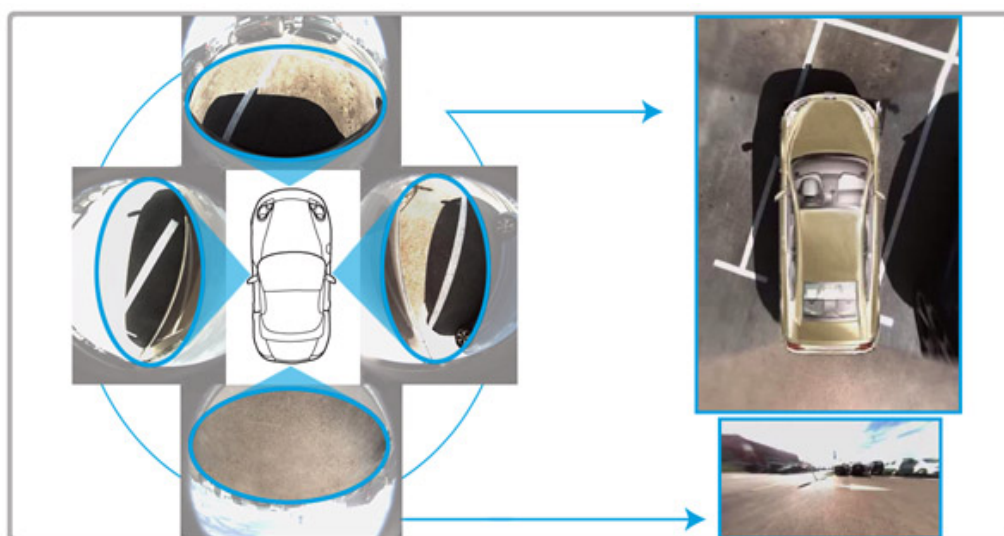

Figure 4: logiVIEW Application Example – Xylon's Four-Camera Surround View DA Demo System
The logiVIEW can be used in automotive Driver Assistance (DA) applications, such as the Four-Camera System for Surround View DA (Figure 4), Heads-Up Displays (HUD) or rear-view camera (backup aid) systems. Due to its high versatility and configurability, it can be used in other single or multi-camera applications, such as a medical endoscopy, surveillance systems, defense equipment, etc.
The Figure 4 provides an illustrative example of the logiVIEW capabilities. Snapshot comes from Xylon's Four-Camera Surround View DA Demo System, which is mounted on the test vehicle. The Surround View DA provides an unmatched awareness of the situation by enabling the driver to see 360-degrees around the vehicle on the LCD instrument cluster or the Central information Display (CID). The surroundings can be seen top-down from a bird's eye view perspective, which eliminates all blind spots during critical and precise maneuvers in crowded spaces.